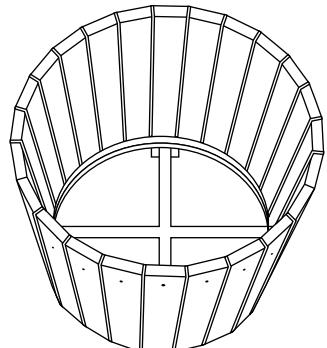

Figure 3
- Repeat this process with each resinwood slat until all resinwood slats have been attached to the bottom ring. (See Figure 3)